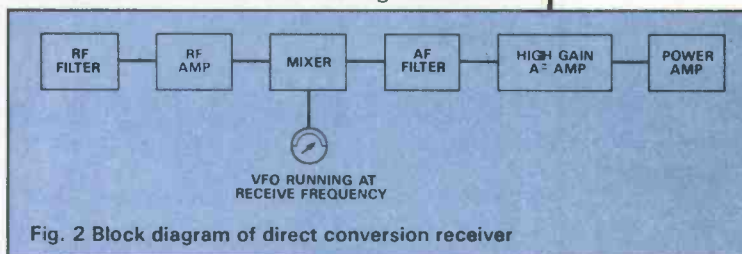

Fig. 2 Block diagram of direct conversion receiver
Commercial receivers use either double conversion techniques shown in Fig. 1 or the simpler single conversion type where the first IF amplifier, the second mixer and its oscillator are left out but high cost crystal filters are included to keep the bandpass within acceptable limits. The provision of three detectors for AM, FM and sidebands and either twin stable oscillators or crystal filters for bandwidth control increases the cost. Fig. 2 shows the direct conversion technique; there is one stable oscillator which actually runs at the same frequency as the signal being received. Filtration is carried out at AF where the use of an inductor/capacitor filter is easy to design and build. Direct conversion receivers are primarily designed for use with single sideband, carrier wave (CW), and morse transmissions. The oscillator runs at the carrier fre-
The block diagram for the radio is shown in Fig.2 An important design requirement is the stability of the single oscillator which in this case runs from 14.000 to 14.350MHz. This oscillator must be stable to within a few Hertz after a short warm-up period otherwise the user will forever be returning the radio. The oscillator needs to be settable to within about 100Hz so that the oscillator control can be calibrated in Megahertz otherwise a conversion chart can be drawn up.